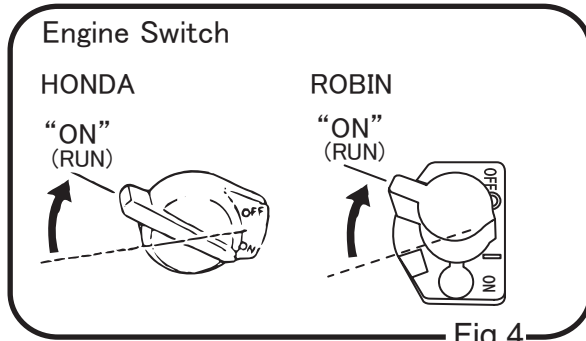

Fig.4
- 2 Turn the stop switch to "ON (I)" position. (Fig.4)